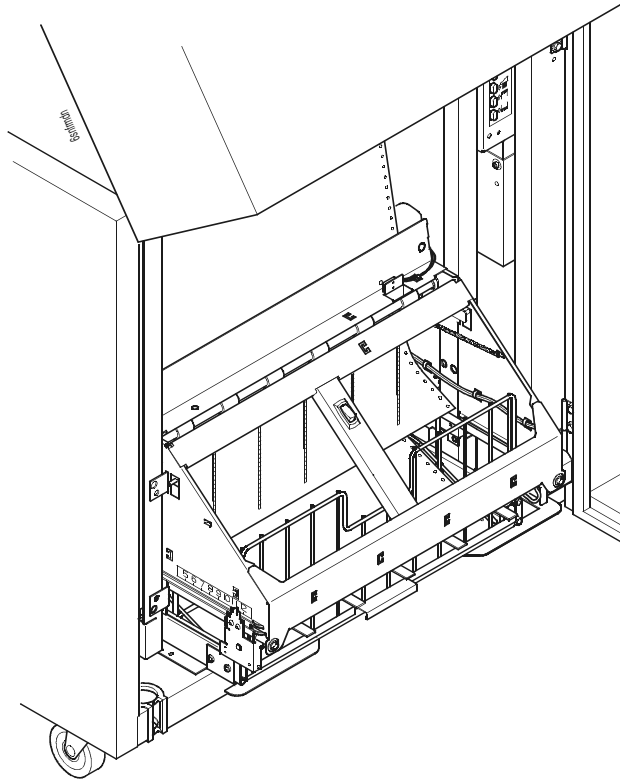

Figure 75. This figure shows the power stacker in the print position.
3. Press the **ON LINE** key on the front or rear operator panel to put the printer in the online state. The stacker elevator will descend to its lowest position. (Figure 75.)